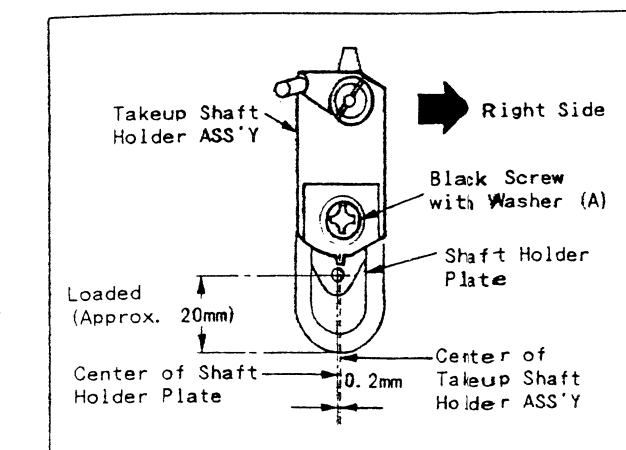

Fig. M11
2. Check to see if the Takeup Shaft Holder ASS'Y is properly set in a position just less than or equal to 0.2mm as measured from the right side to the center of the Shaft Holder Plate as shown in Fig. M11. If required, adjust the Takeup Shaft Holder ASS'Y position by loosening Black Screw with Washer (A).